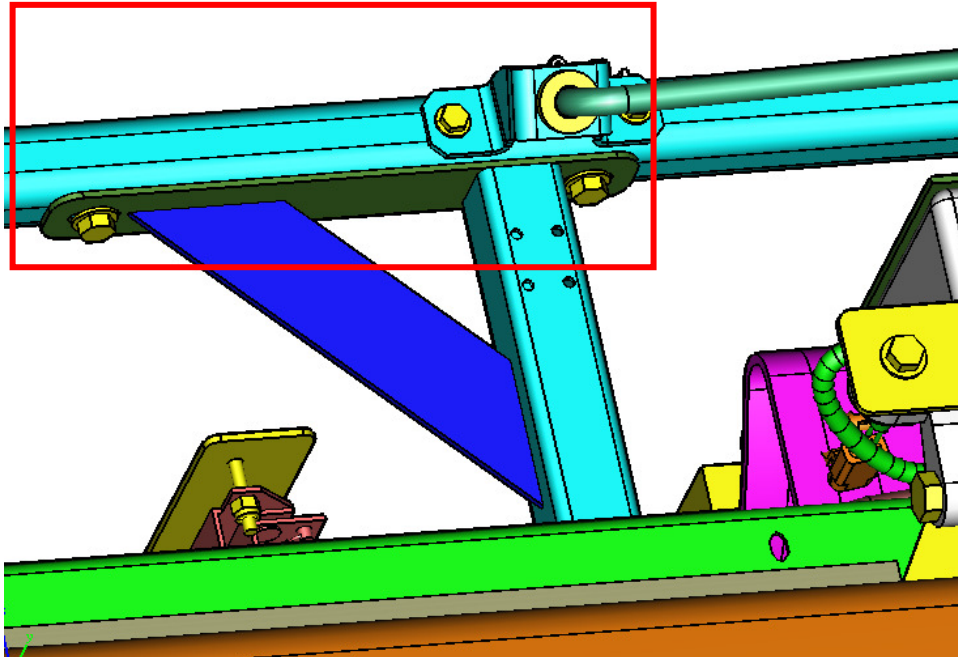

Fig 3 – Legacy UCAP Side Beams
- c. Remove the hardware securing side support rails (front and rear per side) see Fig 3. Before removal of curb side rail, remove coolant line clamps.